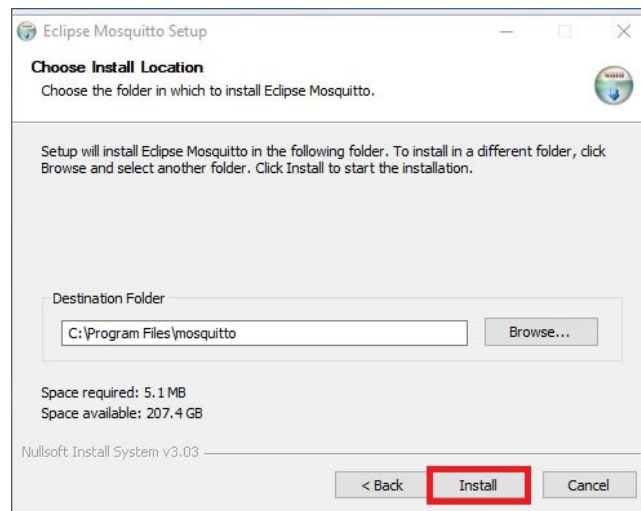

Figure 4.28: Launch of Fast Mode Installation
18. Click "Install" to start the installation, as shown in figure 4.28.